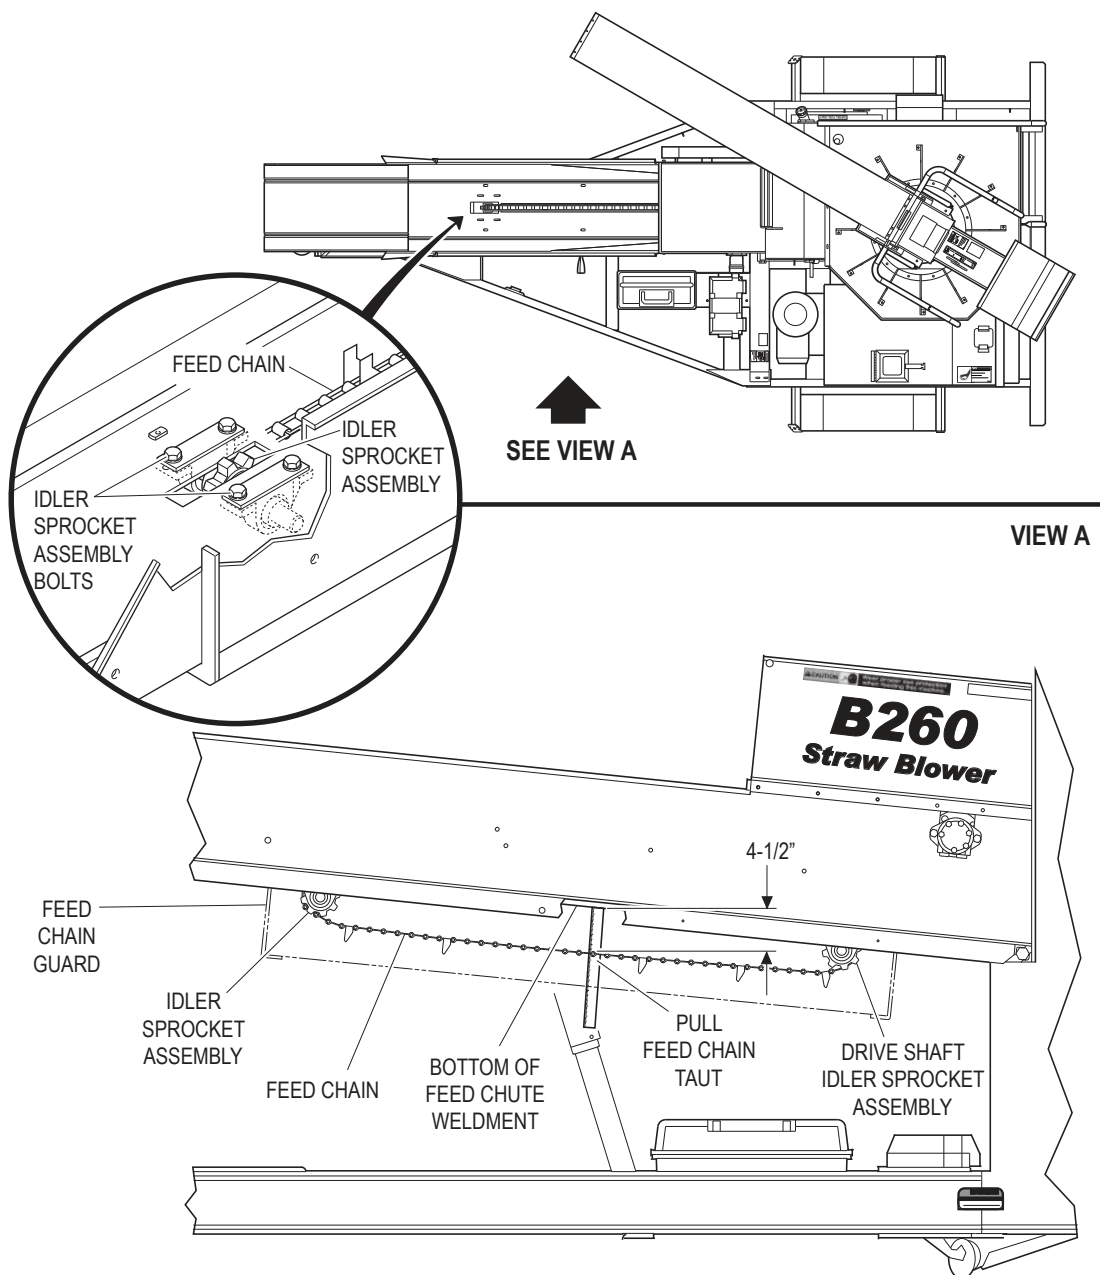

FIGURE 2 - ADJUSTING THE FEED CHAIN
1. About halfway between the Idler Sprocket Assembly and the Drive Shaft Idler Assembly, pull the Feed Chain taut away from the bottom of the Feed Chute Weldment. At the point where you have pulled the Feed Chain away measure the distance between the top of the Feed Chain and the bottom of the Feed Chute Weldment. This dimension should be 4-1/2". See Figure 2.